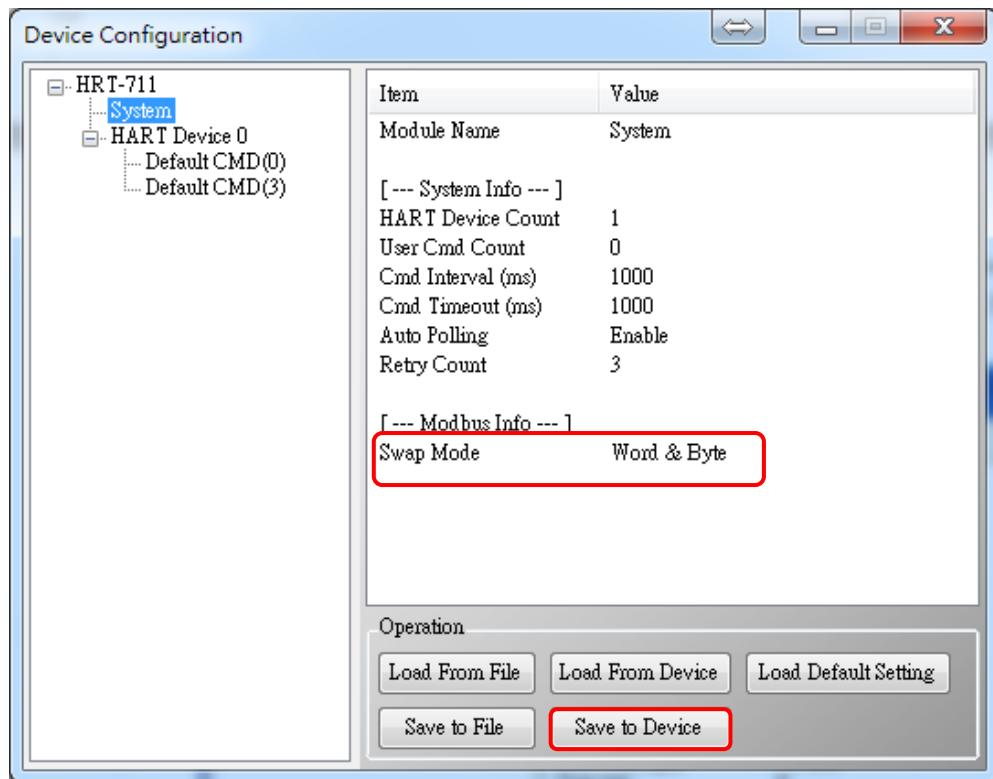

Figure 3-3 “Save to Device” function
- [3] Click the “Save to Device” button to save the new system setting to HRT-711 like Figure 3-3